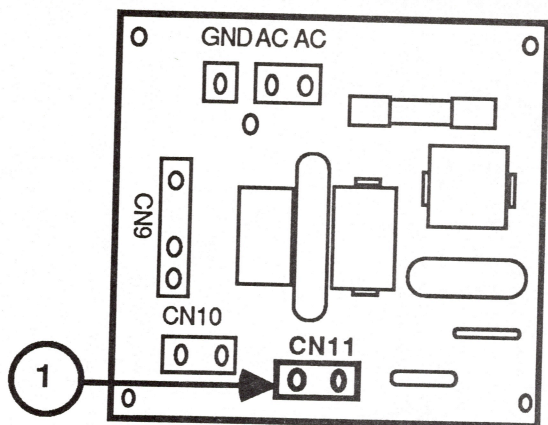
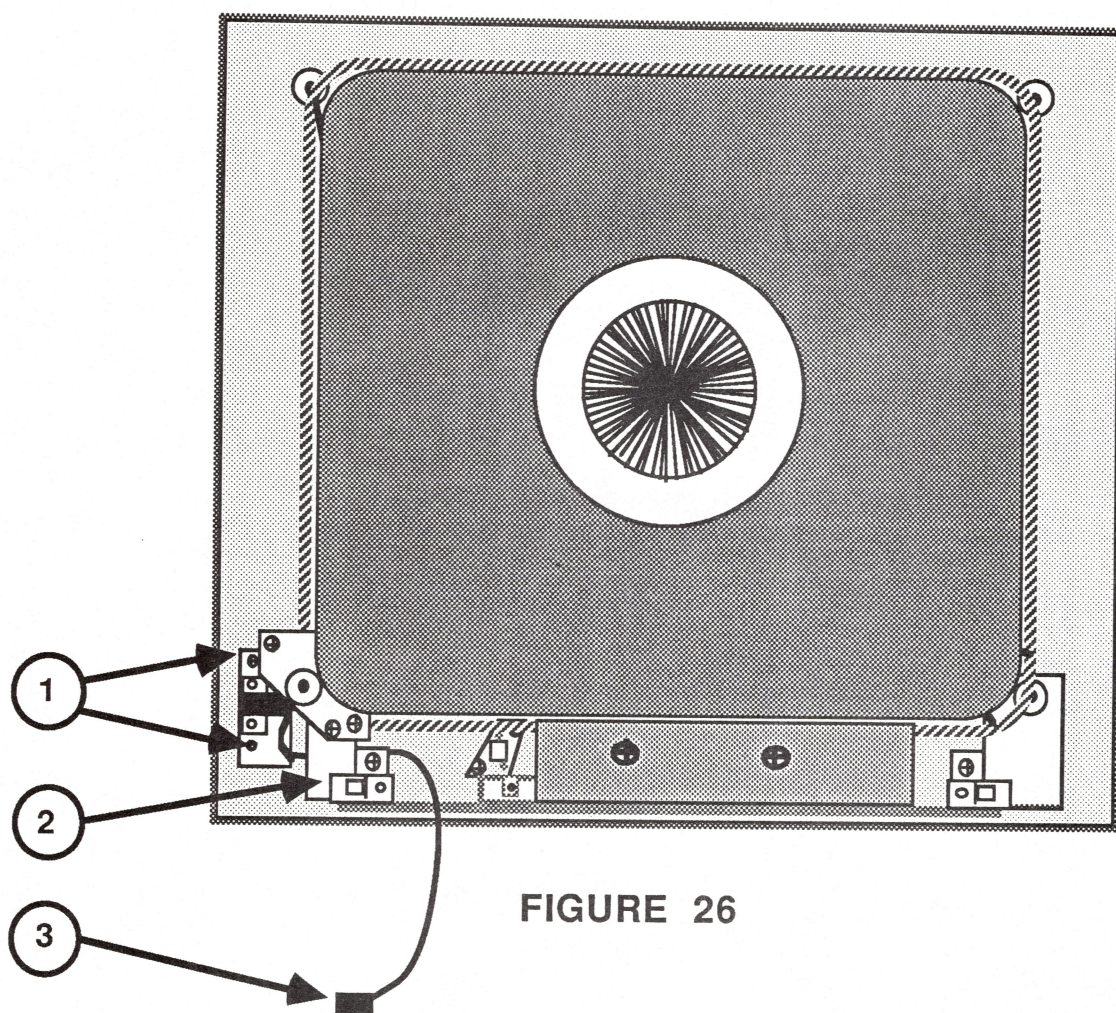

FIGURE 24
FIGURE 26
4. Disconnect the on/off switch connector (CN11) from the power supply board. (Figure 24, #1.)
5. Remove the two screws (Figure 26, #1) which secure the metal switch bracket to the bezel.
3. Slide the switch connector under the CRT mounting bracket (Figure 26, #2) and pull the wire through until the switch meets its slot in the front bezel.
4. Replace the two screws (Figure 26, #1) to secure the switch to the front bezel.
5. Connect the switch connector (CN11) (Figure 26, #3) to the power supply board (Figure 24, #1).